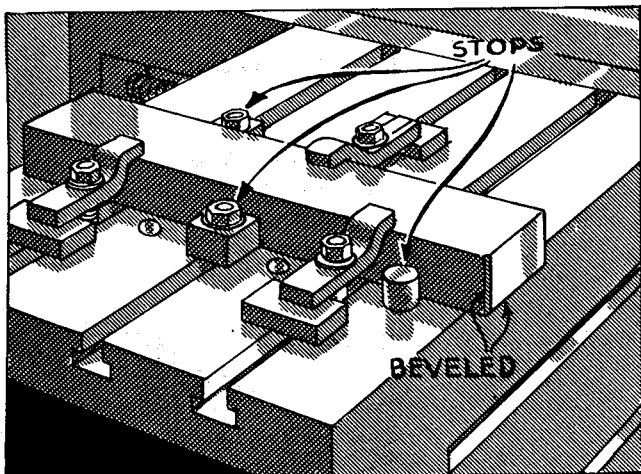

FIG. 308
14. Place a suitable stop in front of the work at the right and another in the rear of the work at the left (Fig. 308) as an additional precaution against shifting of the work during the cut. Refer to How to Use Stops on page 139.